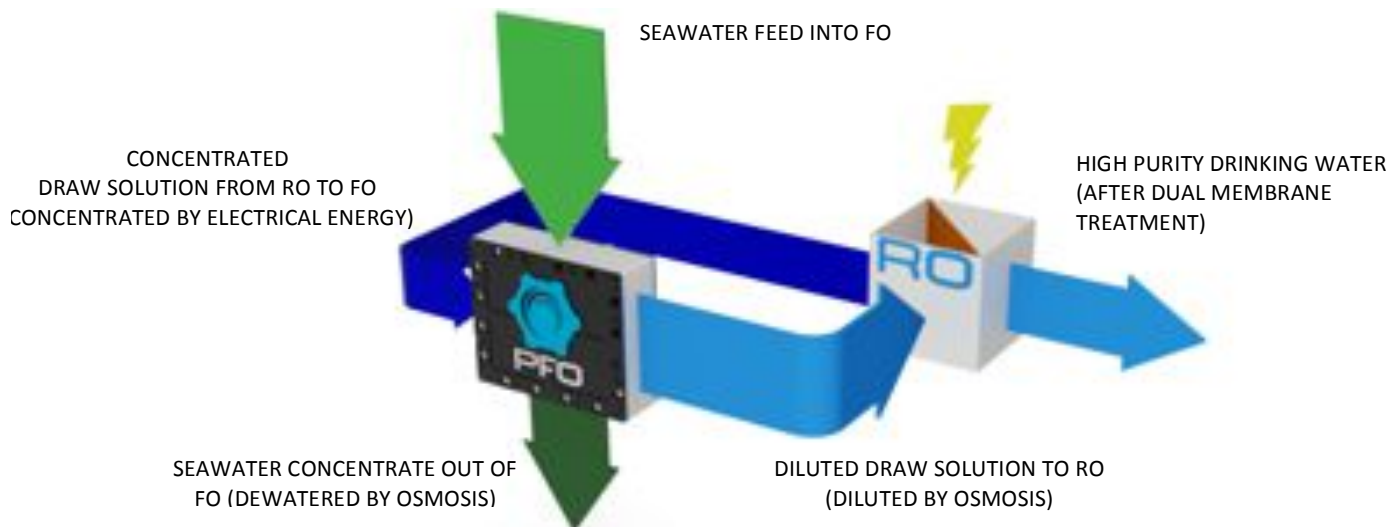
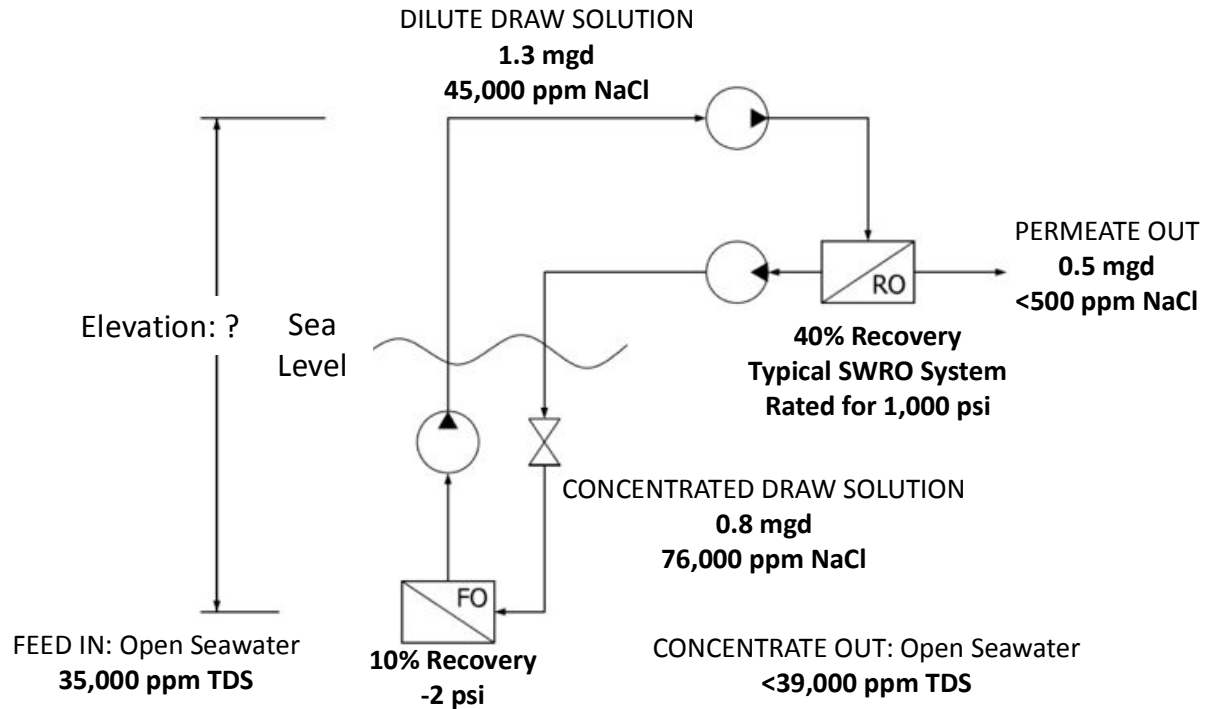

Figure 2. FO+RO Treatment Process Simplified Schematic
Figure 3. FO+RO Process Flow Diagram
The first proposed option is to use submersible forward osmosis (FO) elements as the combined intake/pretreatment for SWRO desalination. The intent of this design is to provide balanced reductions in capital cost (CAPEX), annual operating cost (OPEX), and energy use. The following subsections summarize advantages and challenges with this approach. **Figure 2** illustrates this process in graphic form to visualize how this process works. **Figure 3** provides process flow rates, salinities, and recovery rates for reference.